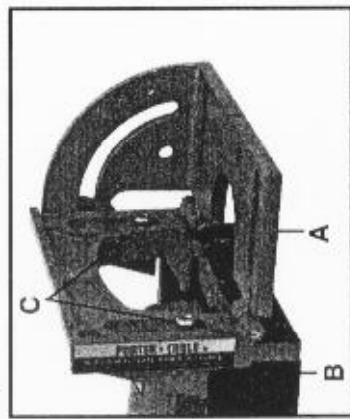
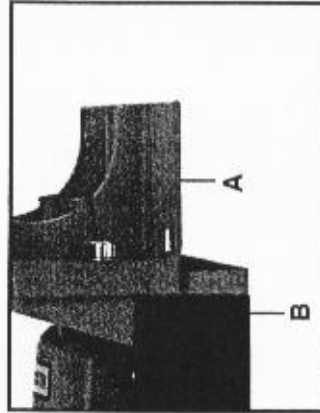
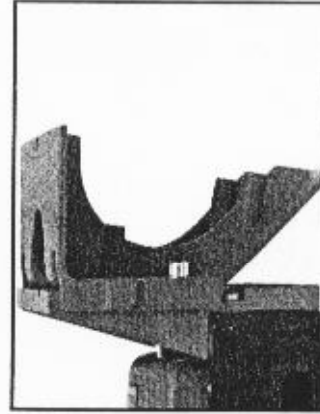

Fig. 4A
Fig. 5A
Fig. 5B
Fence height is adjusted by loosening the two fence mounting screws (C) Fig. 4A, and sliding the fence up or down as required. Tighten the two fence mounting screws to secure the fence in the desired position.
2. Orient the 45°/90° fence for 90° operation (see Fig. 5A), or for 45° operation (see Fig. 5B), as required for the operation that is to be performed, and position the fence to the plate joiner blade guard.
3. Position fence so that bottom surface (A) Fig. 4A (or Fig. 5A), is at a distance of $\frac{3}{8}$ " + ($\frac{1}{2}$ the material thickness) above the bottom of the machine base (B) Fig. 4A (or Fig. 5A). Tighten the two retaining screws.